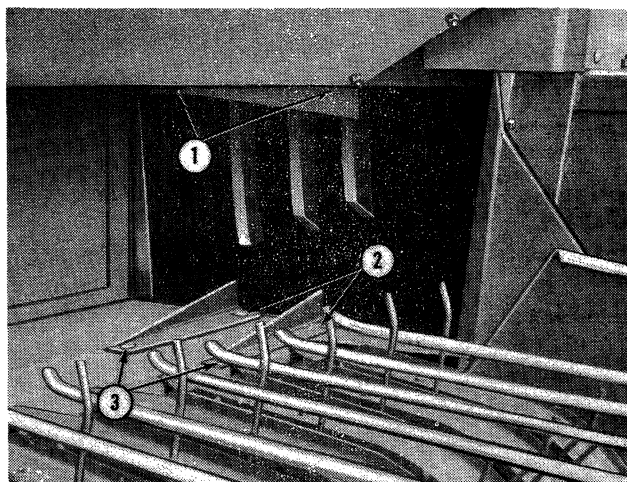

Figure 1
Upon delivery of your baler, your Ford Tractor-Equipment Dealer provided you with three hay deflectors as standard equipment. The hay deflectors, Figure 1, should be installed in the feed housing when bale shape and density are not satisfactory, especially during light windrow conditions. The deflectors help to maintain the balanced flow feeding feature built into your Ford Baler, by enabling the feed forks to push the hay into the bale chamber at a more balanced rate to provide improved bale shape and uniformity of bale density.
The deflectors must be installed as a complete set, as shown in Figure 1. Install the upper deflector with the existing bolts at (1), and the two lower deflectors with the existing bolts at (2), and two 3/8" – 16 x 1" carriage bolts, flat washers, and nuts at (3).